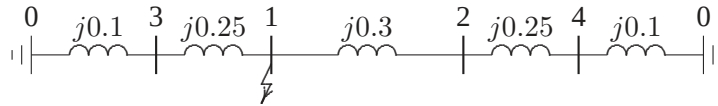

FIGURE 85
10.15. The reactance data for the power system shown in Figure 85 in per unit on a common base is as follows: